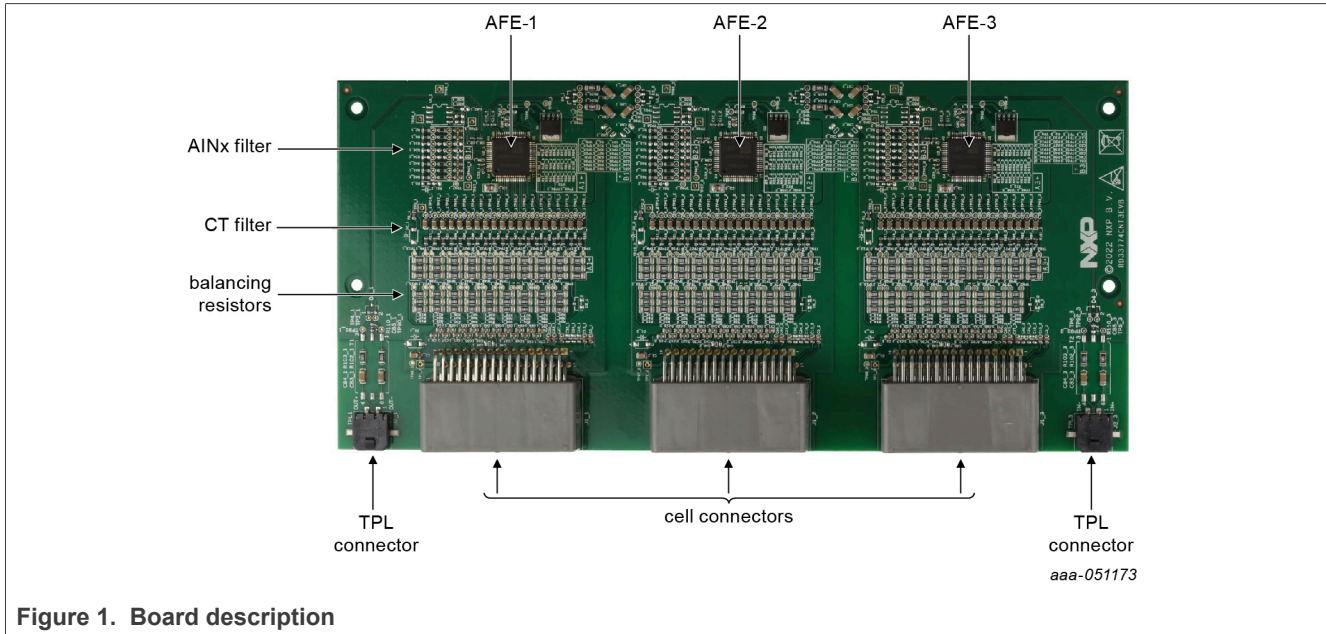

Figure 1. Board description
- Figure 1 shows the location of connectors on the board.